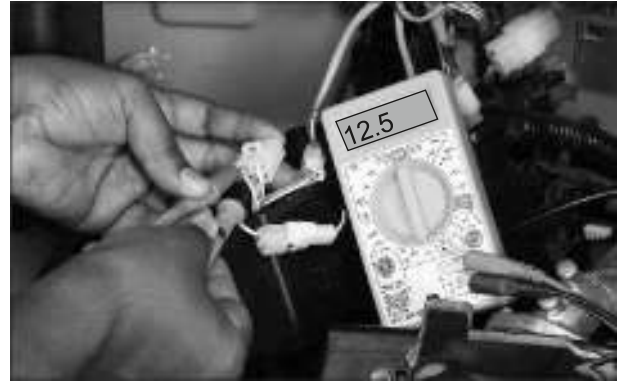

Fig. 6.17
- Connect the '+ve' probe of the multimeter to the Yellow with Red tracer (YR) wire from the magneto assembly and '-ve' probe of the multimeter to the Black with White trace (BW) wire from the magneto assembly. (Fig. 6.17)